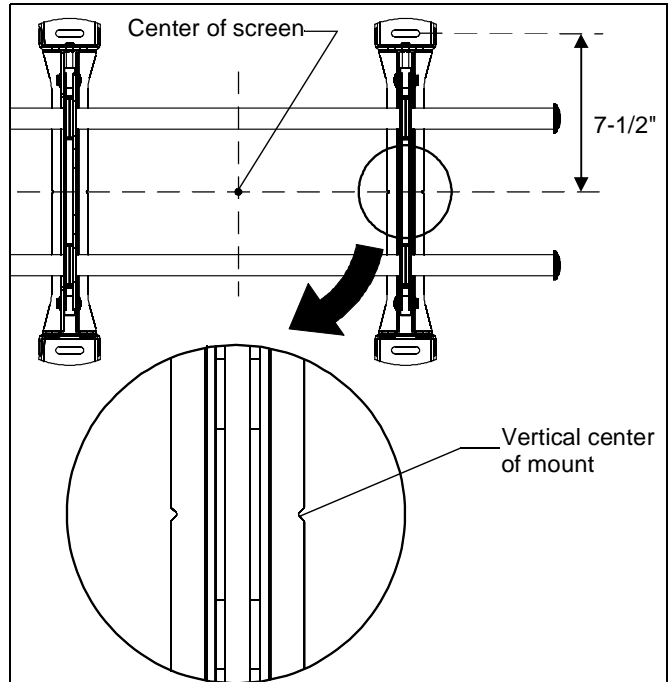

Figure 1
3. Line up the notches on mount with center of screen marking to determine vertical center. (See Figure 1)
2. Line up the notches on mount with center of screen marking to determine vertical center. (See Figure 1)
3. Measure up 7-1/2" from the center point to mark location of the upper mounting slots. (See Figure 1)